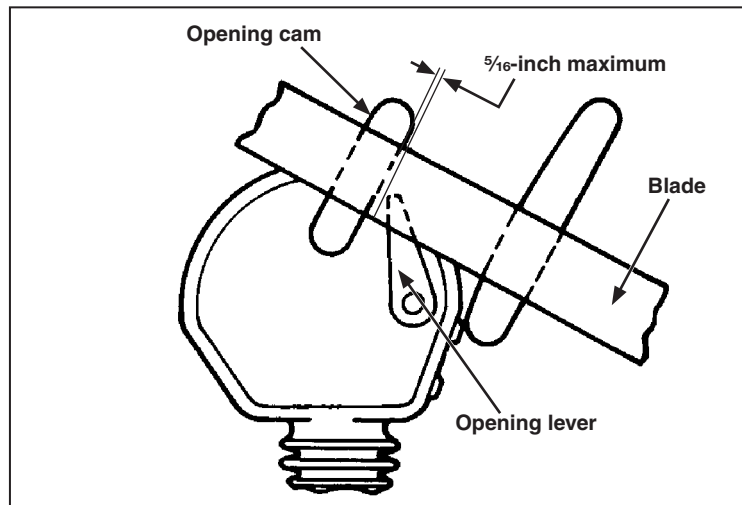

Figure 41. The blade assembly moving in the closing direction.
- (a) As the blade moves in the closing direction, the clearance between the blade-opening cam and the interrupter opening lever must be within the limit shown. See Figure 41.